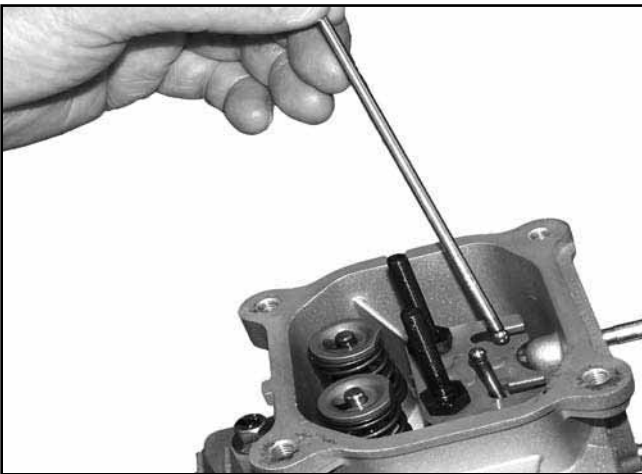

Figure 8-37. Removing Push Rods.
1. Remove the push rods and mark them for reinstallation. See Figure 8-37.